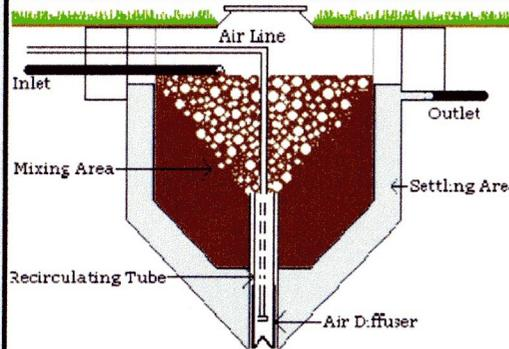

Figure 1: Typical Home Aerobic Treatment Unit
- 2. Aeration:** The second stage forces oxygen to mix with the wastewater in the aeration chamber. This allows the beneficial bacteria to thrive and breakdown the sewage. Without a pretreatment chamber, the solids would settle out as sludge. Figure 1 is a typical schematic of an ATU without a pretreatment tank.